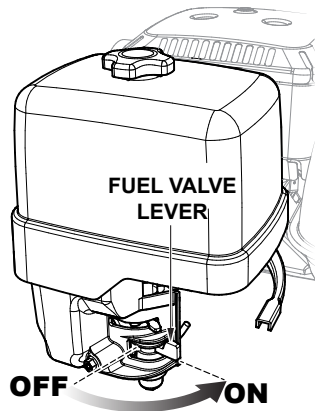

Figure 8. Engine Fuel Valve Lever (ON)
2. Place the engine fuel valve lever (Figure 8) in the **ON** position.